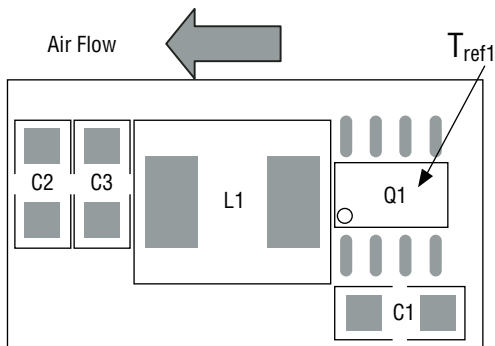

Fig. 26 T_{ref1} Temperature Measurement Location
The thermal reference points are (1) T_{ref1} = temp at dual Mosfet, as shown in Figure 26, and (2) T_{ref2} = temp at controller IC. For reliable operation, neither T_{ref1} or T_{ref2} should exceed 115 °C.